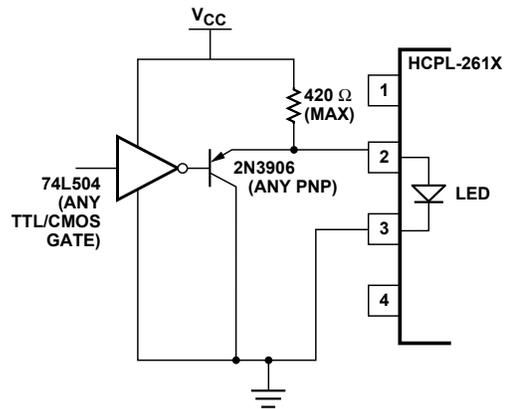

Figure 22. TTL interface circuit for the HCPL-261A/-261N families.
1. Use of drive circuits where current is shunted from the LED in the LED “off” state (as shown in Figures 22 and 23). This is beneficial for good  $CMR_H$ .
Using any one of the drive circuits in Figures 22-24 with  $I_F = 10$  mA will result in a typical CMR of 8 kV/ $\mu$ s for the HCPL-261N family, as long as the PC board layout practices are followed. Figure 22 shows a circuit which can be used with any totem-pole-output TTL/LSTTL/HCMOS logic gate. The buffer PNP transistor allows the circuit to be used with logic devices which have low current-sinking capability. It also helps maintain the driving-gate power-supply current at a constant level to minimize ground shifting for other devices connected to the input-supply ground.